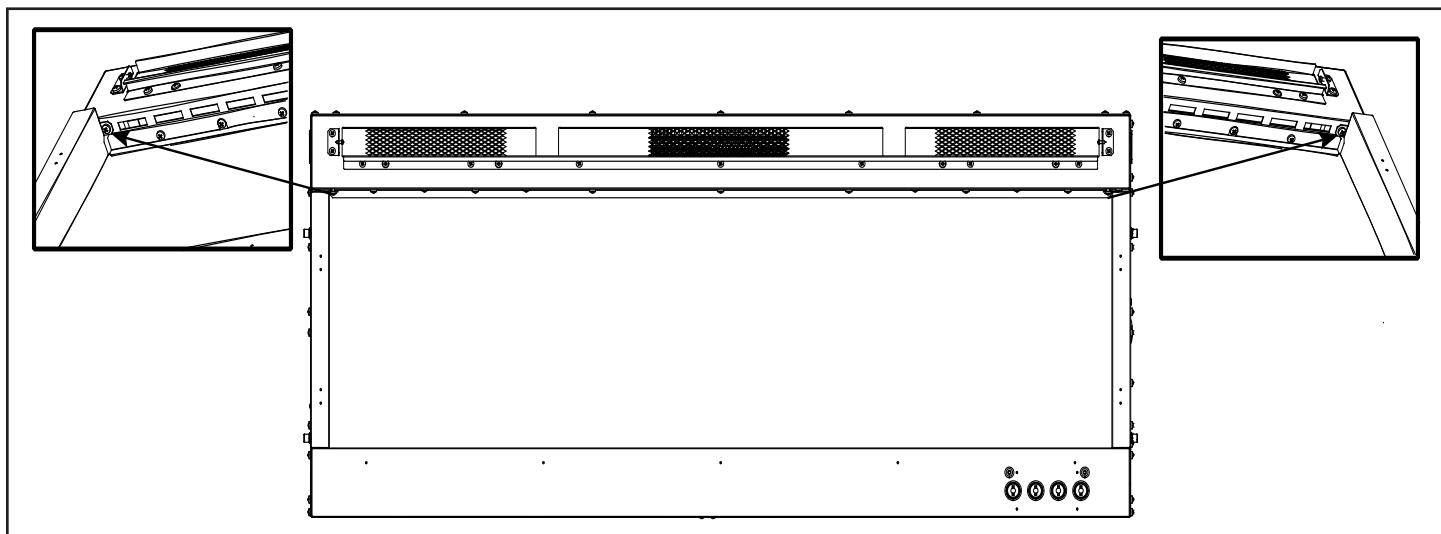

Figure 4. Remove Upper Right & Left Screws
3. Remove the two screws in upper right and left corners of the glass opening. Follow specific instructions from page 1 and 2 for removal of the front glass. See Figure 4.